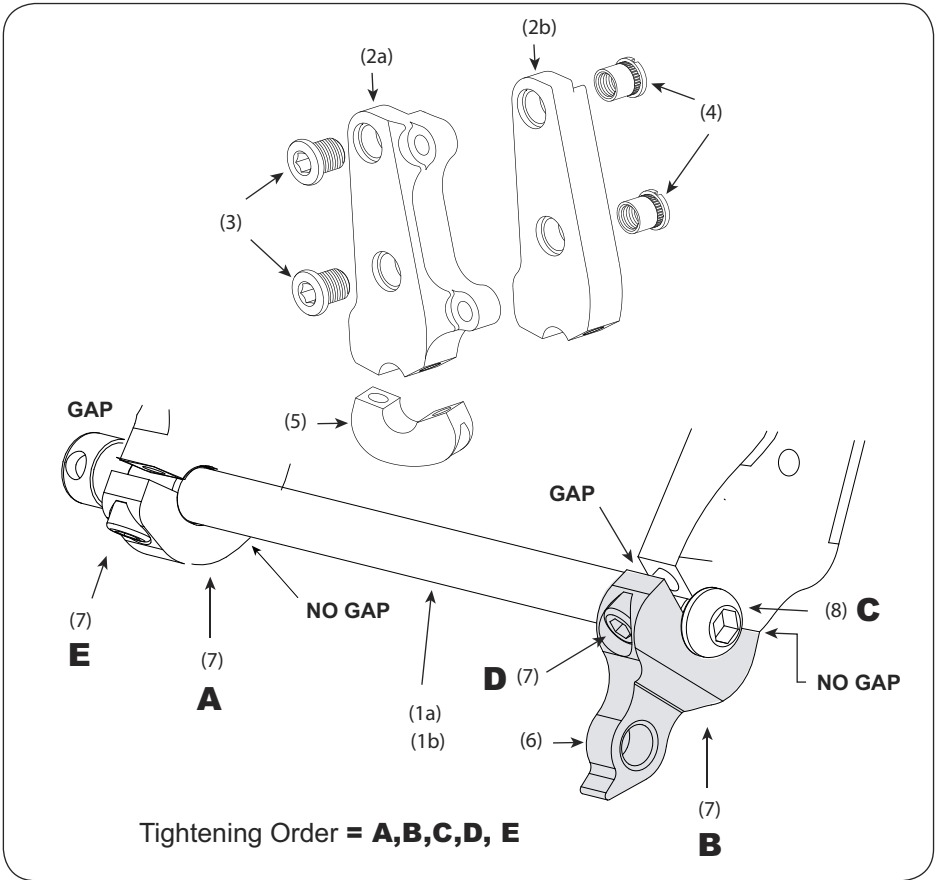

FIGURE 22
3. Make sure that the dropout clamps are attached to the swingarm correctly. See Figure 22. Pay attention to GAP and NO GAP.